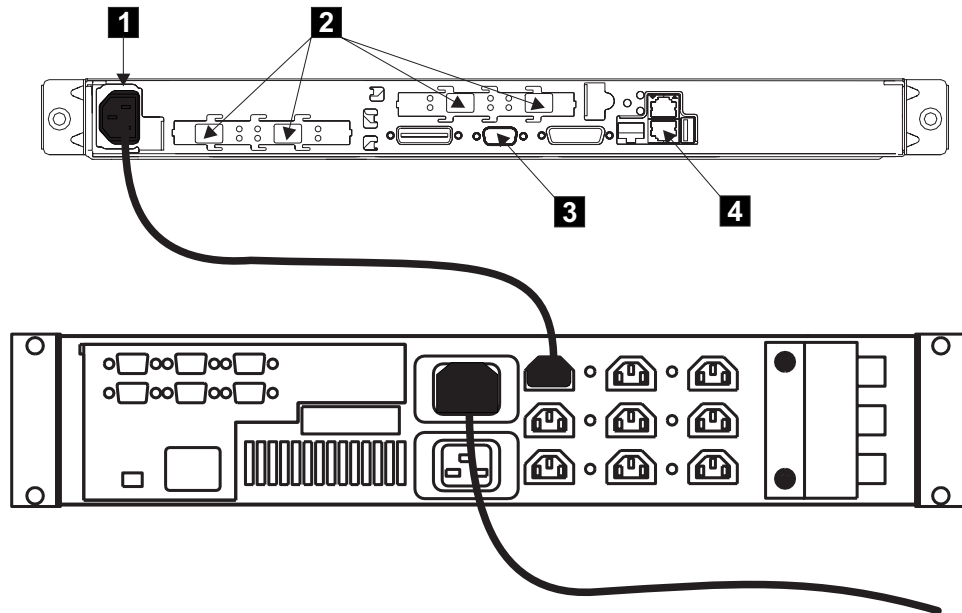

Figure 1. Power cable and signal sockets
Figure 1 on page xxvii shows the connectors for the SAN Volume Controller and the uninterruptible power supply.
2. Ensure that the power cable **1** is plugged into the uninterruptible power supply. Also ensure that the other ends of the power cable are connected to the power supply in the rack. See Figure 1 on page xxvii.